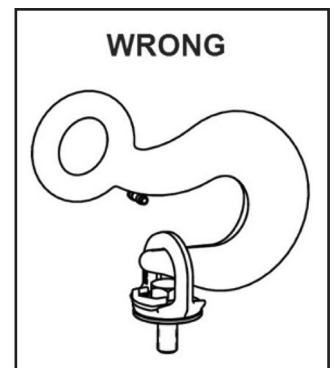

Figure 6
- Attach lifting device ensuring free fit to Lifting Point bail. (Figure 6)